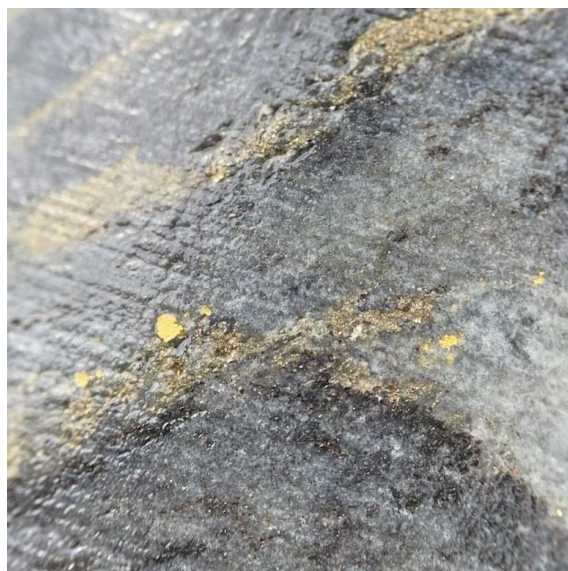

Figure 1: Course gold in BBRC345D (*assays pending*)
To date, three (3) holes have been completed at Burbanks North testing Plunge 1, with assays still pending for BBRC345D (visible gold observed in core, Figure 1). A further four (4) Reverse Circulation (RC) pre-collars have been drilled at both Plunge 1 and Plunge 2, and are awaiting the completion of Diamond Drill (DD) tails to test the highly prospective diorite contact. Finally, eight (8) holes remain undrilled, with RC pre-collars and DD tails to be completed following the completion of DD tails on Plunge 1 and Plunge 2. The remaining drilling at Burbanks North is expected to take a further 6-8 weeks, with assays to be reported as they become available.